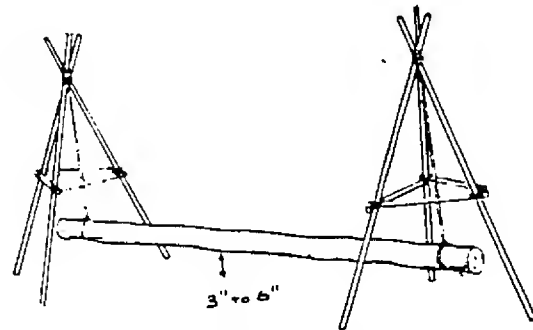

Figure 412 The Floating Log
33. The Floating Log: This challenge can be made in several different ways. One method is shown in Figure 412.